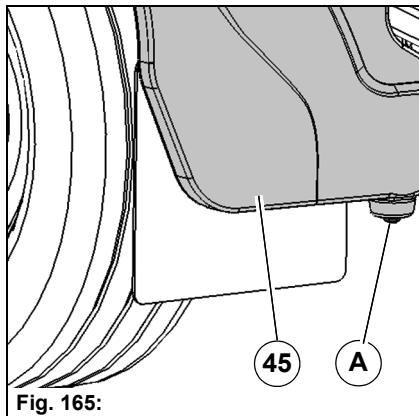

Fig. 165:
2. Unscrew the drain screws **Fig. 165-A** on both sides of the fresh water tank **Fig. 165-45** and empty the tank. Use a new seal when screwing in.